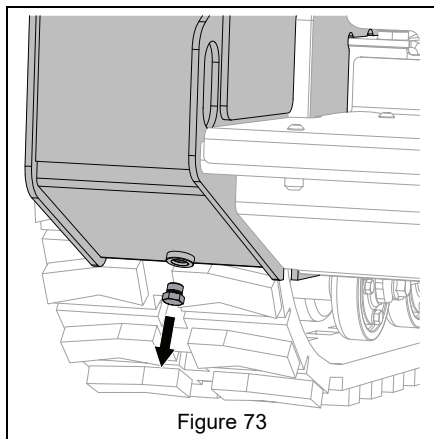
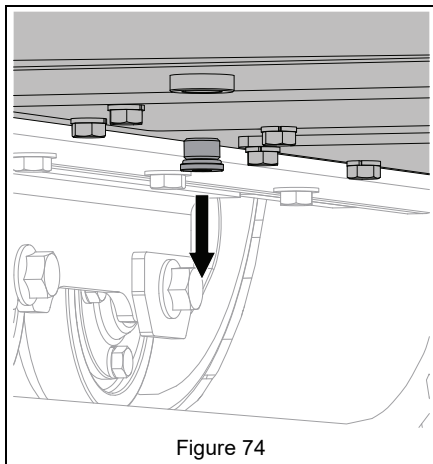

Figure 73
Figure 74
2. Place a container large enough to hold 11 gallons (42 L) of fluid under fluid drain plugs to catch used fluid. Remove fluid drain plugs located on bottom of fluid tank and bottom center of unit. See Figure 73 and Figure 74.